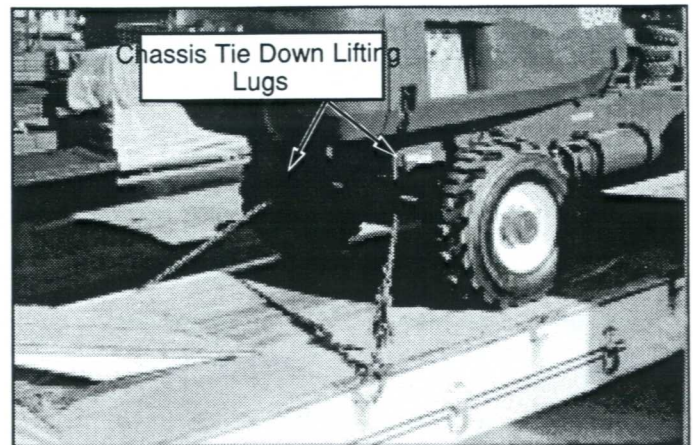

Figure 2-8: Front chassis tie down lifting lugs.
5. Secure the machine to the transport vehicle using chains / straps of adequate load capacity (refer to Table 1-1) attached to chassis tie down lugs (see figures 2-8 and 2-10).